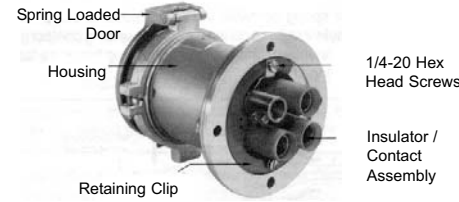

Figure 2. Insulator / Contact Assembly (Style 2 Shown)
2. Remove the insulator/contact assembly and retaining cup by lifting on the wire well insulating tubes. The front insulator does not have to be removed. Remove the retaining cup. See Figure 2.